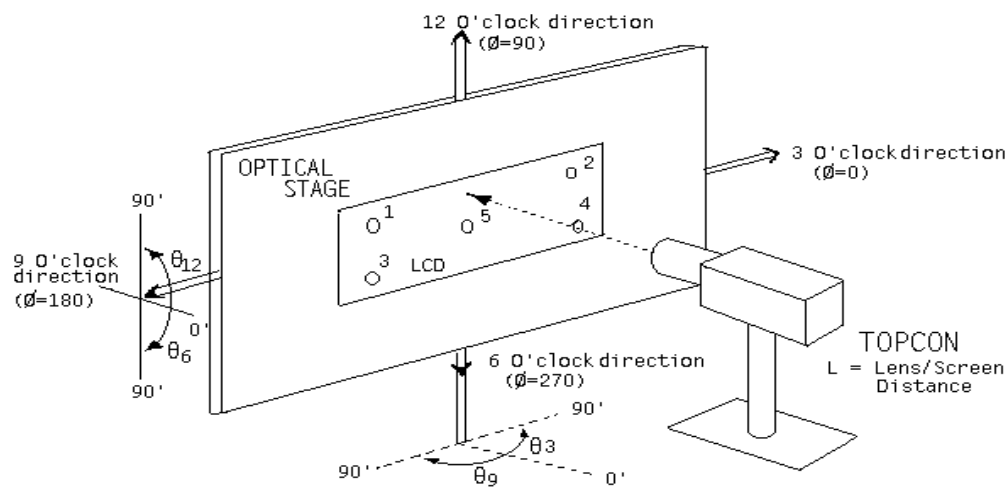

Figure 7: Measurement Set Up
3. Surface luminance is the center point across the LCD surface 50cm from the surface with all pixels displaying white. This measurement shall be taken at the locations shown in FIG. 7
4. Uniformity measurement shall be taken at the locations shown in FIG. 7&8, for a total of the measurements per display, measure surface luminance of these nine points across the LCD surface 50cm from the surface with all pixels displaying white.